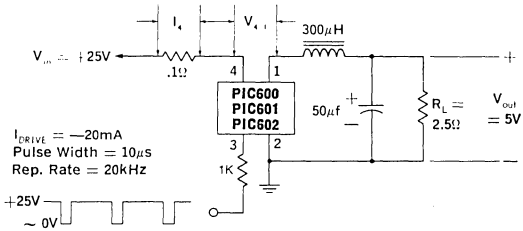

Figure 1. PIC600, 601, 602 Switching Speed Circuit
2. The efficiency is a measure of internal power losses and is equal to Output Power divided by Input Power. The switching speed circuit of Figure 1, in which the efficiency is measured, is representative of typical operating conditions for the PIC600 series switching regulators.